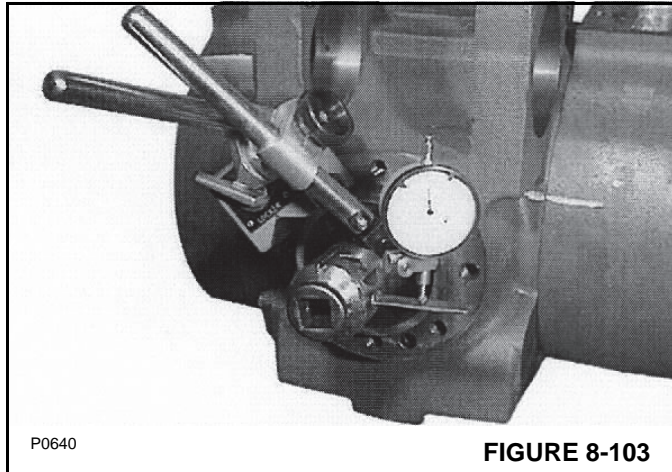

FIGURE 8-103
11. Install SPECIAL TOOL P/N 1901769 to the end of the pinion shaft (Figure 8-103). Using a dial indicator mounted so that the feeler is in contact with the bracket surface of the SPECIAL TOOL at 90° Move the pinion shaft in both directions while holding the differential from moving and read the dial indicator. Check that the measured backlash is within the range of **0.15 - 0.20 mm (0.006 - 0.008 in)**.